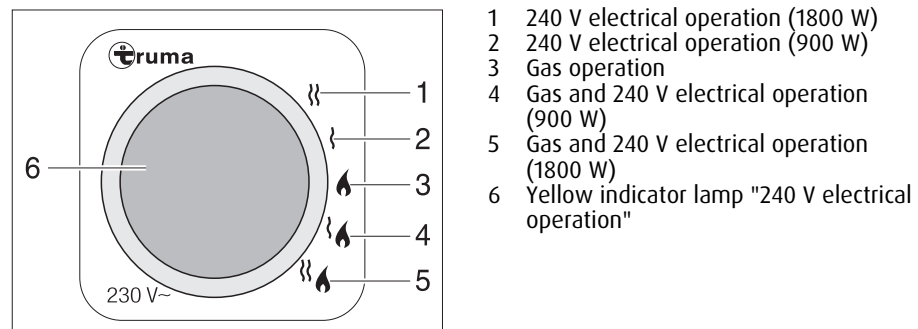

Fig. 112 Energy selector switch for heater/boiler
- Gas operation (Fig. 112,3)
- 240 V electrical operation with the output levels 900 W (Fig. 112,2) or 1800 W (Fig. 112,1)
- Gas and 240 V electrical operation (mixed operation) with the output levels 900 W (Fig. 112,4) or 1800 W (Fig. 112,5)
When 240 V electrical operation is selected, the yellow indicator lamp illuminates (Fig. 112,6).